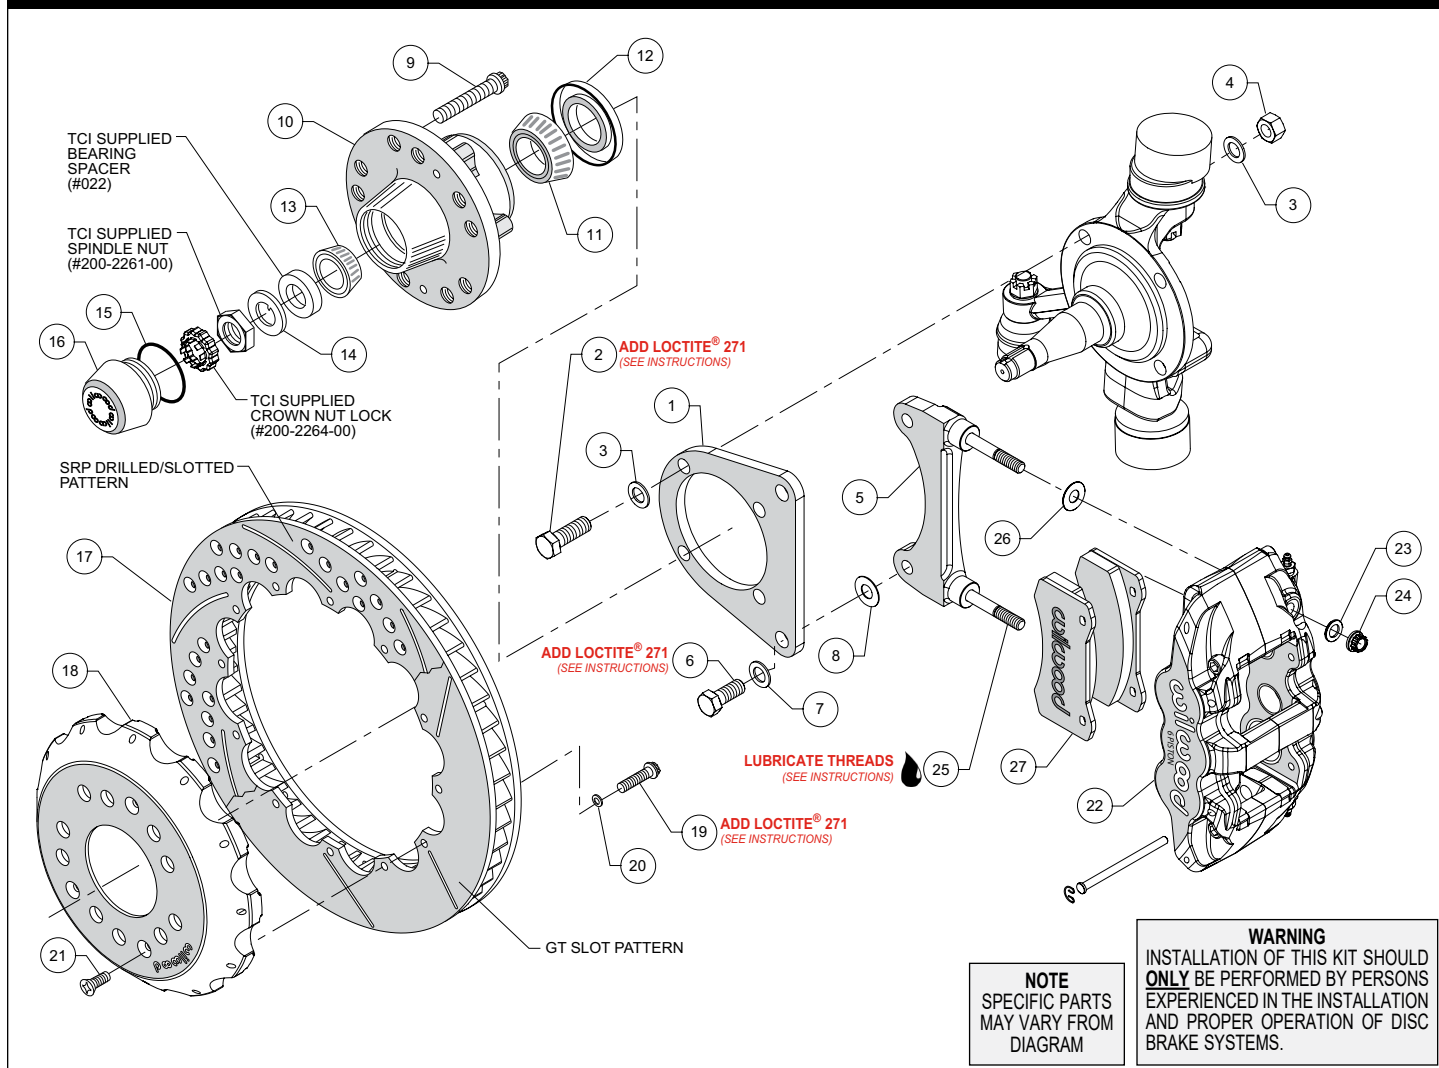
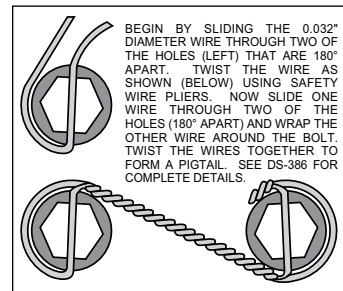

Figure 1. Typical Installation Configuration
Figure 3. Safety Wire Diagram
NOTE: Numbers in parenthesis refer to the parts list and Figure 1 on the preceding pages.
- Orient the flat bracket (1) as shown in Figure 1, and Photo 1, and install using bolts (2), washers (3), and nuts (4). **NOTE:** The two lower mount bolts thread directly into the steering arm. Temporarily tighten the mounting bolts. **NOTE:** The bracket must fit squarely against the spindle face. Inspect for interference from casting irregularities, machining ridges, burrs, etc. After the bracket alignment has been checked, remove the bracket mounting bolts (or nuts) one at a time and apply red *Loctite*® 271 to the threads. Torque bolts to 77 ft-lbs.
- The radial mount caliper bracket (5) should initially be installed with clean, dry threads on the mounting bolts. Orient the bracket as shown in Figure 1, and Photo 2, and install using bolts (6), and washers (7). Initially place one .033" thick shim (8) on each bolt between the flat bracket (1) and radial mount caliper bracket (5), Figure 1. Temporarily tighten the mounting bolts. Later, after the caliper alignment has been checked, the mount bolts will be secured using red *Loctite*® 271.
- Install wheel studs (9) into the hub (10), Photo 3. Torque to 77 ft-lb. **NOTE:** There are two five lug patterns in the hub (5 x 4.50 and 5 x 4.75). Ensure the correct hub stud pattern is being used to fit the wheel application.
- Pack the large inner bearing cone (11) with high temperature disc brake bearing grease (available from your local auto parts store) and install into the backside of the hub (10), Photo 4.
- Install the grease seal (12) by pressing into the backside of the hub (10), flush with the end of the hub, Photo 4.
- Pack the small outer bearing cone (13) with high temperature disc brake bearing grease and install into hub (10), Photo 5. Slide the hub assembly onto the spindle. Install TCI supplied
- Orient the rotor (17) and the hat (18) as shown in Figure 1 and Photo 7. Attach rotor to hat using bolts (19) and washers (20). Apply red *Loctite*® 271 to the bolt threads and torque to 155 in-lb using a criss-cross pattern. For an added measure of security, the bolts may be safety wired using standard 0.032 inch diameter stainless steel safety wire as shown in Figure 3. Please refer to Wilwood's data sheet DS-386 (available at www.wilwood.com/Pdf/DataSheets/ds386.pdf) for complete safety wire installation instructions.
- NOTE:** This kit contains distinct right and left hand calipers that must be mounted in a specific direction, as described below. Lubricate the caliper mounting studs (25) with lightweight oil. Initially place one .030" thick shim (26) on each stud between the caliper and the bracket, as shown in Figure 1 and Photo 9. Mount the caliper (22) onto the bracket (5) using lock nuts (24) and washers (23), Figure 1. Ensure that the caliper is mounted so the largest pistons are at the rotor exit end of the caliper, in relation to the direction of rotor rotation. Temporarily tighten the lock nuts and view the rotor through the top opening of the caliper. The rotor should be centered in the caliper, Photo 10. If not, adjust by adding or subtracting shims (8) between the flat bracket and the radial mount bracket. Always use the same amount of shims on each of the two mounting bolts. Once the caliper alignment is correct, remove the radial mount bracket bolts one at a time, apply red *Loctite*® 271 to the threads, and torque to 60 ft-lb.
- Remove the two pad retaining pins from the caliper by carefully popping out the pin retaining clips and sliding out the pins. Insert the brake pads (27) into the caliper from the bottom, Figure 1, with the friction material facing the rotor and secure the brake pads in place with the pad retaining pins and clips, Photo 11. Reinstall the